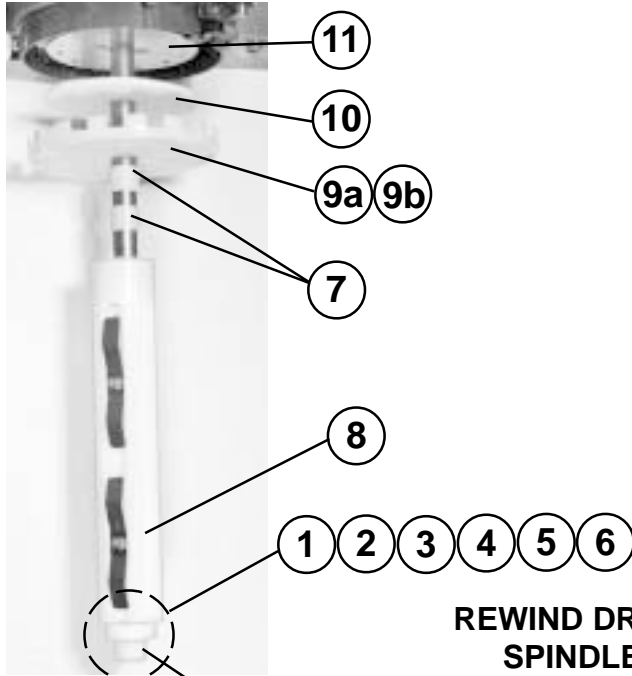
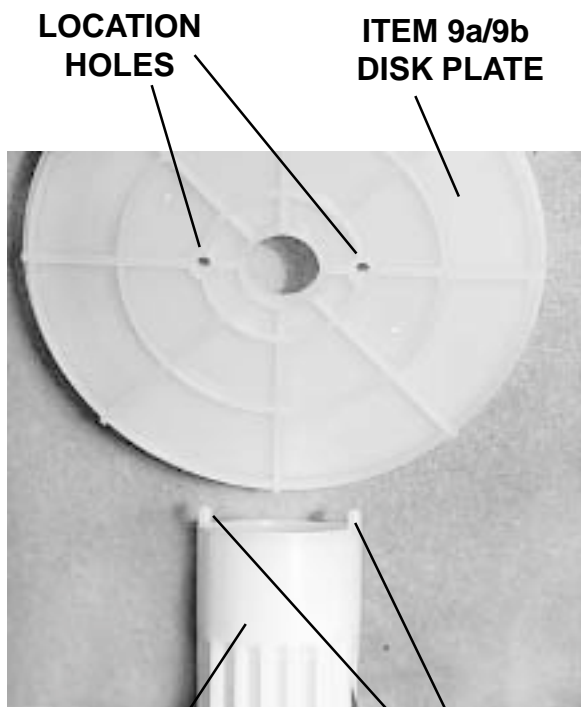
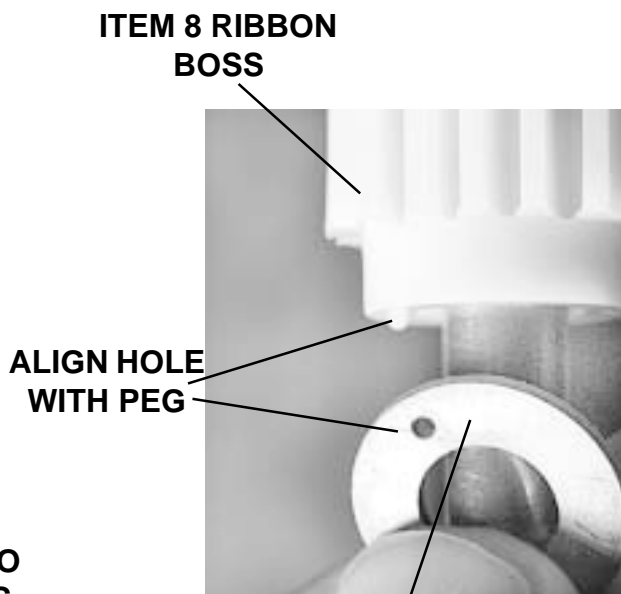

Fig. 6-43
Fig. 6-47
Fig. 6-48
3.	Slide (2) Item 7 Collars onto the Ribbon Shaft and against Item 9a or 9b Wind or Unwind Disc Plates. NOTE: The collars may still be inside the ribbon boss. List 6-A and Fig. 6-43
4.	Slide Item 8 Ribbon Bosses onto the Ribbon Shaft. Align the pegs on Item 8 with the location holes on the Item 9a/9b disc plates. Slide the 3rd Item 7 Collar onto the shaft and into Item 8 Ribbon Boss. List 6-A, Fig. 6-43 and Fig. 6-47
5.	Install Item 6 Oil-less Dry Metal Washer onto the ribbon shaft with the frictionless coated side facing outward away from Item 8. Align the hole on Item 6 Washer with the peg on Item 8 Ribbon Boss. List 6-A, Fig. 6-43 and Fig. 6-48